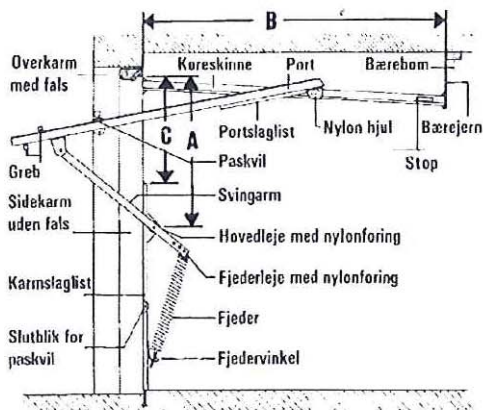
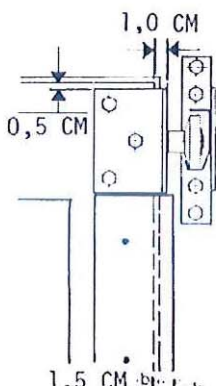

FIG. 1
FIG. 4
1. VINKLERNE MED NYLONHJUL FASTGØRES, SE FIG. 4.
3. KARMLISTERNE FASTGØRES PÅ KARMENS INDVENDIGE SIDE. SE FIG. 1 - 2 & SKEMA.
4. HOVEDLEJET MONTERES PÅ KARM OG PORTVINKLEN MONTERES PÅ PORTEN. SE FIG. 1 - 2 & SKEMA. NB. UDMÅLINGEN SKAL VÆRE NØJAGTIG I BEGGE SIDER OG ARMENE SKAL STÅ LODRETTE. HOVEDLEJEBOLTEN BØR EFTERSPÆNDES EFTER 3-4 MÅNEDER. TILSPÆNDINGSMOMENT 130 Nm
5. KØRESKINNERNE SKRUES PÅ KARM. SE FIG. 4. HÆLDNING BAGUD CA. 8 CM BÆREJERNENE MONTERES PÅ KØRESKINNERNE OG STROPPERNE FASTGØRES TIL LOFT. SE FIG. 1.
9. PORTENS STOPKLODS PLACERES I SKINNE. SE FIG. 1. SÅLEDES AT SVINGARMENE ER LIDT FORBI LODRET STILLING. OM NØDVENDIGT MONTERES EN GUMMIDÆMPER PÅ KLODSEN.